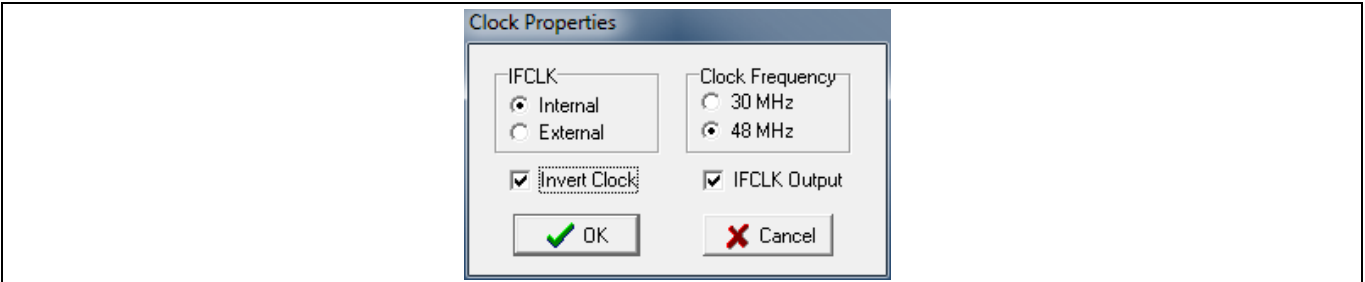

Figure 35 Configure IFCLK
8. Right-click the **48 MHz CLK** text box and configure the clock properties as shown in Figure 35. Select the **Invert Clock** checkbox. The GPIF changes and samples signals on the rising clock edge; the FIFO changes and samples signals on the falling clock edge. This half-clock offset gives the interface timing ample setup and hold times.